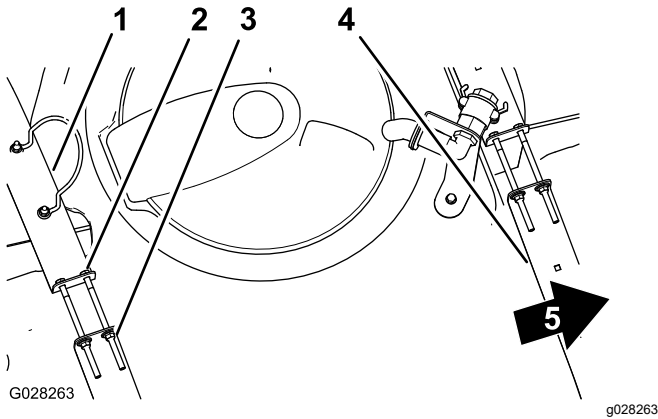

Figure 31
2. Check to see if there is any movement between the tank straps and the tank (Figure 31).
3. If the tank straps fit loose to the tank, tighten the flanged locknuts and bolts at the top of straps until the straps are flush with the surface of the tank (Figure 31).